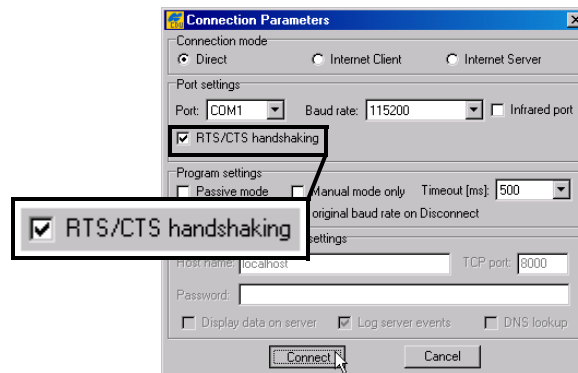

Figure 2-15. Connection Parameters – MINTER Settings
2. On the **Connection Parameters** dialog box, enable RTS/CTS handshaking (Figure 2-15).